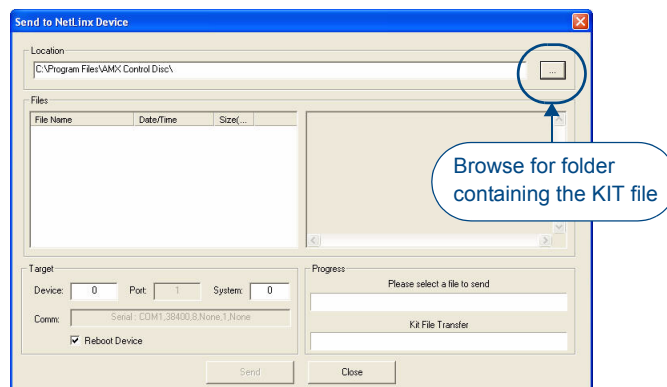

FIG. 58 Send To NetLinx Device dialog (NetLinx Studio)
1. Choose **Tools > Firmware Transfers > Send to NetLinx Device** to open the Send to NetLinx Device dialog (FIG. 58).